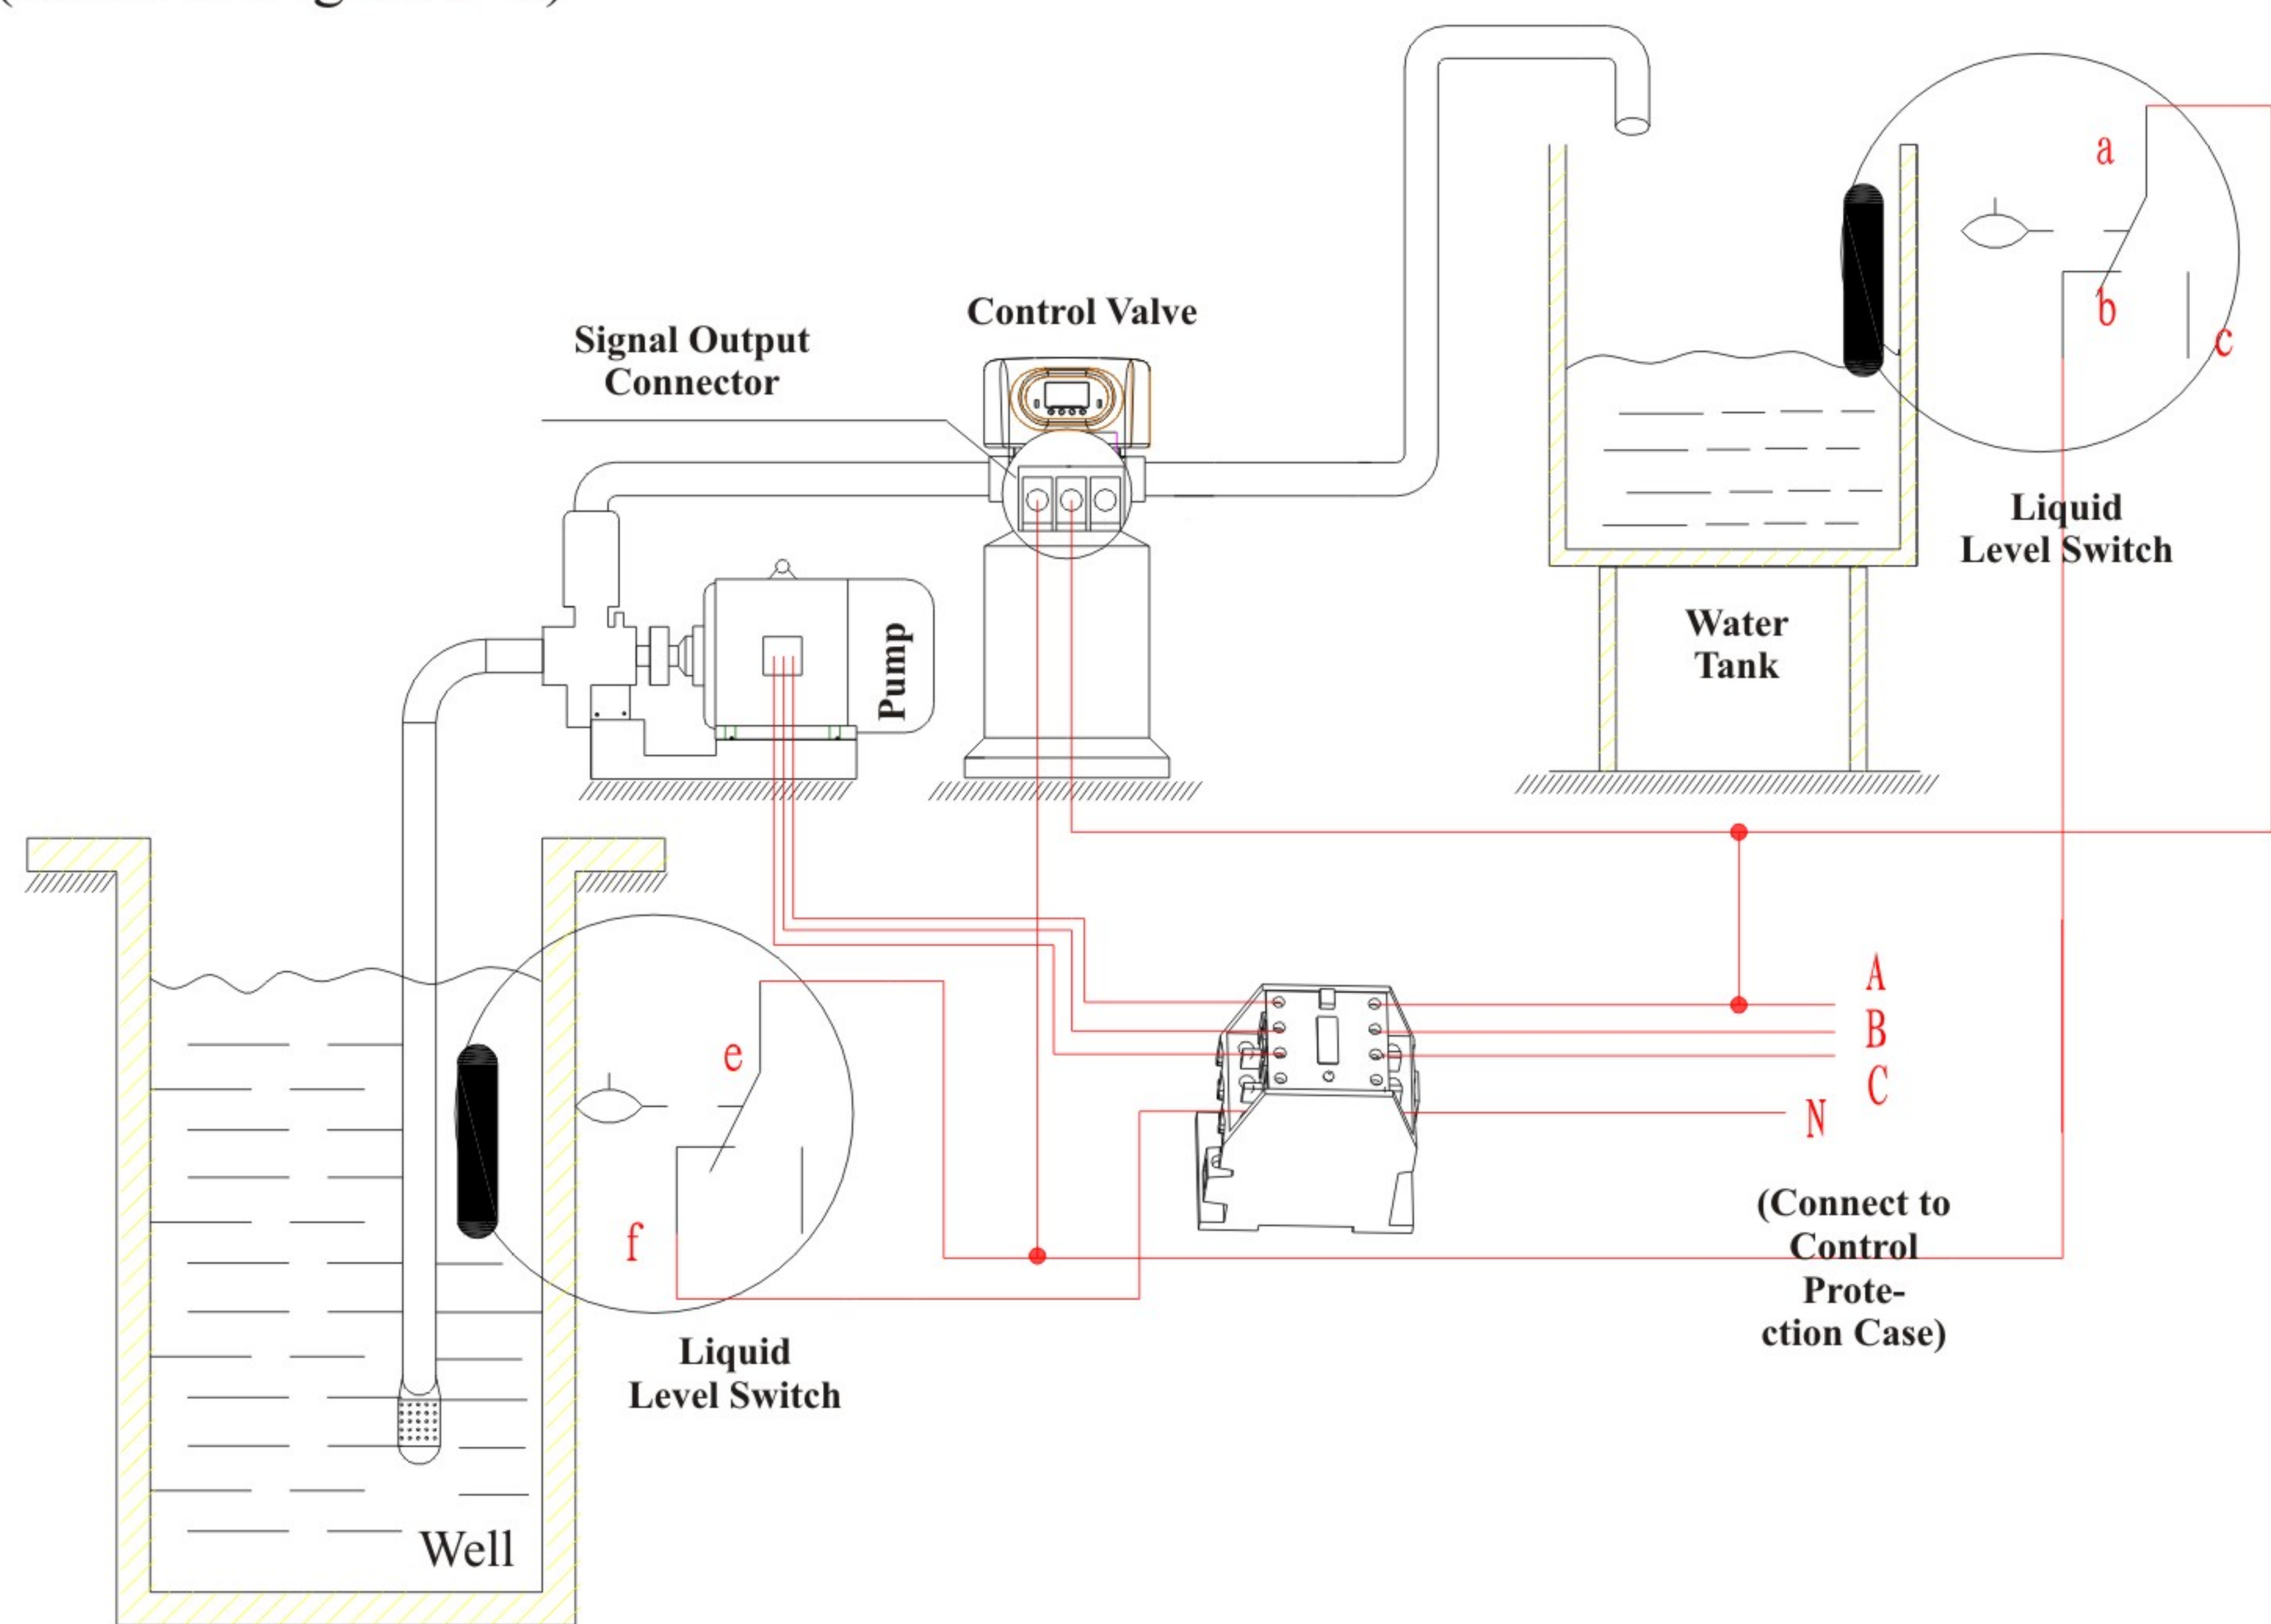

Figure 3-6 Wiring of Liquid Level Switch in Water Tank Controls Inlet Pump
3). Liquid Level Switch in Water Tank Controls Inlet Pump (Three-phase) (Set b-01) (Refer to Figure 3-6)